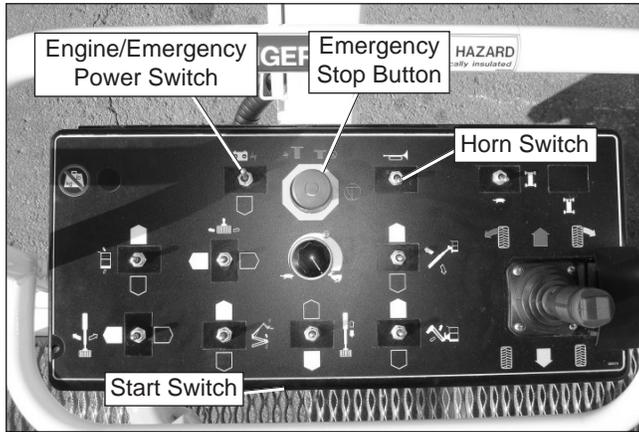

Figure 7.14 – Upper Controls
3. At the upper controls (refer to Figure 7.14), pull the emergency stop button outward.
3. At the upper controls (refer to Figure 7.14), pull the emergency stop button outward and place the start switch in the on position.
The machine may be equipped with an optional horn. Operate the horn switch (refer to Figure 7.14) to ensure that it sounds to warn personnel in the area.